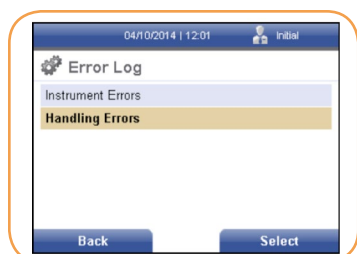

FIGURE 99
1. Use the [↓] key to cursor down to the Handling Errors text field from the Error Log screen (under Operator → *View Error Log*) (Figure 99).